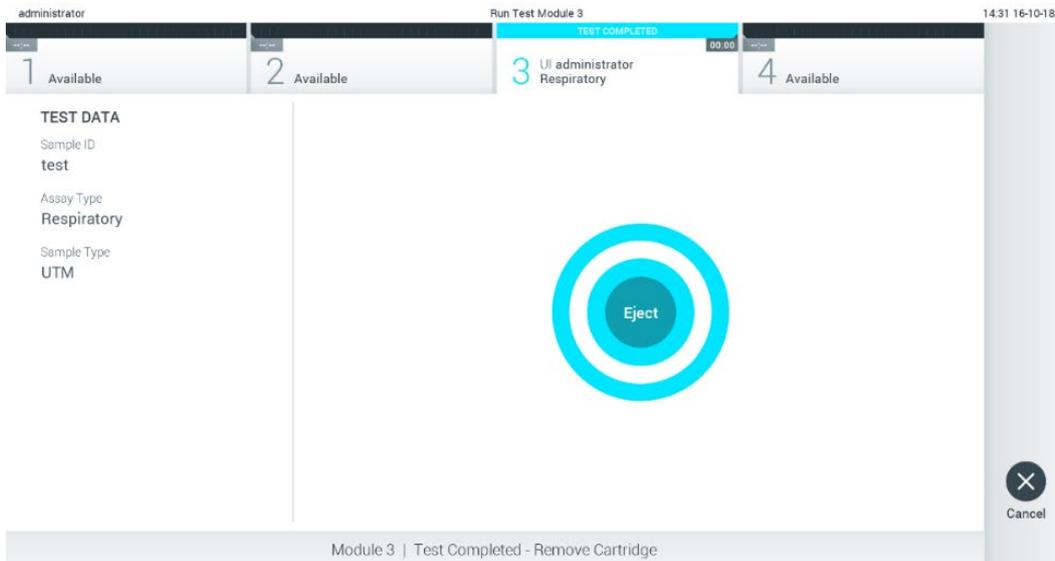

Figure 29. Eject screen display.
10. After the test run is completed, the **Eject** screen will appear (Figure 29).